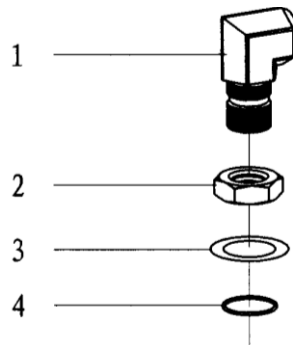

Fig.7-16
16. Bend sub (NPT1-1 5/16-12UN) (Fig 7-16, Table 16)